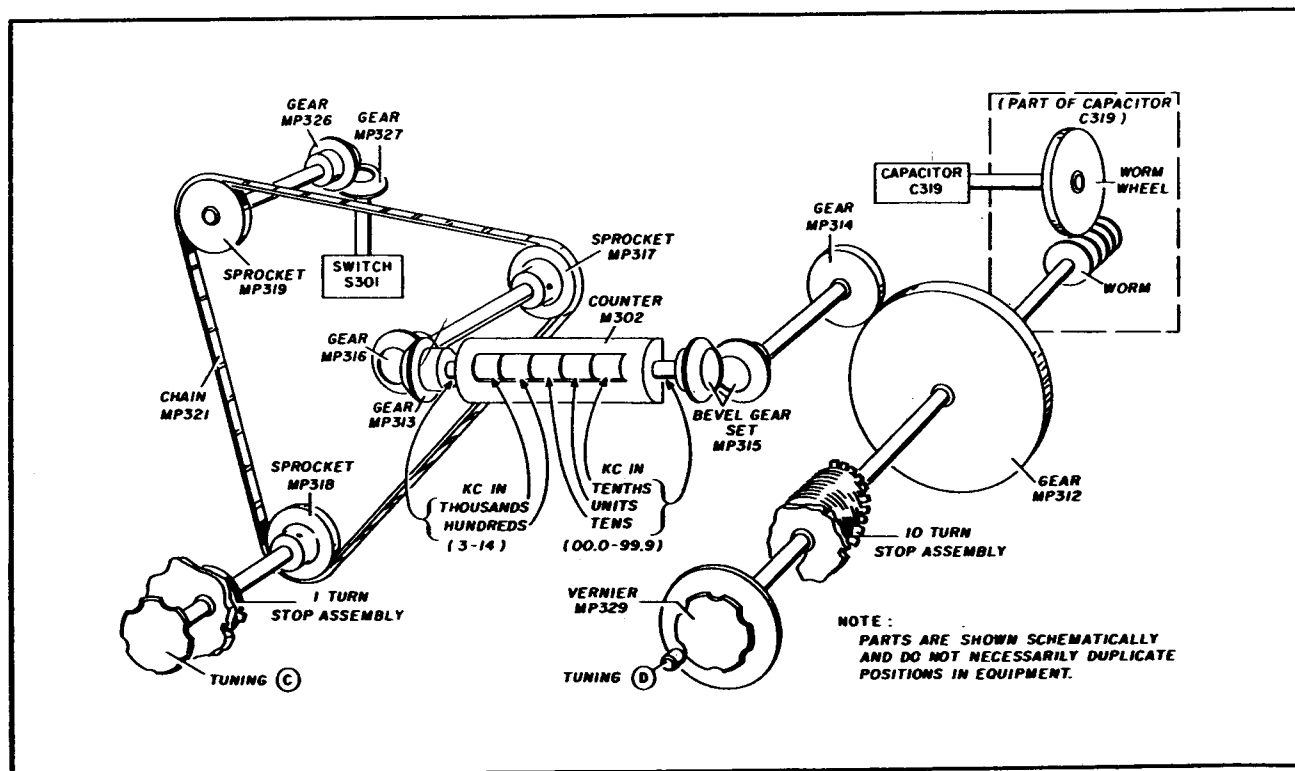

Figure 4-4. Master Oscillator and Frequency C Control Gear Train, Simplified Schematic Diagram
(2) MASTER OSCILLATOR GEAR TRAIN.
(a) TUNING (C).—The 100-kc band, within which the master oscillator is to be tuned, is selected by the TUNING (C) control. Rotation of this control knob is transmitted by means of chain MP321 to sprockets MP317 and MP319 as shown in figure 4-4. Sprocket MP319 transfers this rotation through bevel gears MP326 and MP327 to band switch S301. Switch S301 selects the electronic circuitry to be used in conjunction with tuning capacitor C319. Each position of switch S301 provides successively the circuit components necessary to enable capacitor C319 to tune through any 100-kc wide band from 3 through 14. At the same time that switch S301 is rotated by sprocket MP319, sprocket MP317 rotates bevel gears MP316 and MP313 and the two left hand dials of counter M302. The two left hand dials therefore indicate the tuning range of the master oscillator in hundreds and thousands of kilocycles.